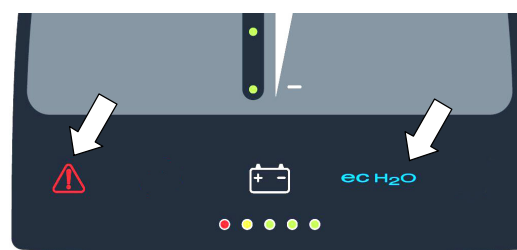

FIG. 38
5. If a machine fault is detected during operation, the service indicator will light up and begin flashing (Figure 38). See SERVICE INDICATOR CODES.